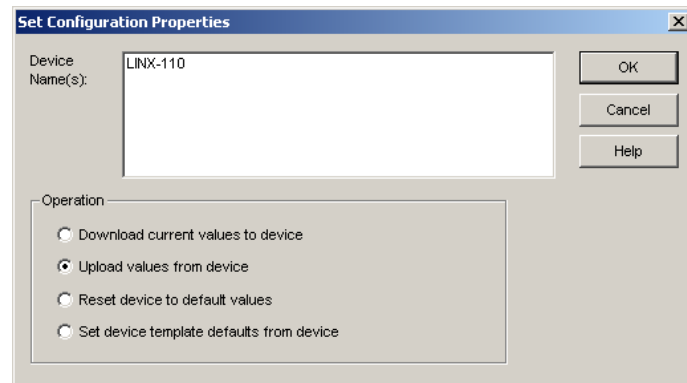

Figure 95: Set Configuration Properties in LonMaker TE.
2. This opens the dialog shown in Figure 95.